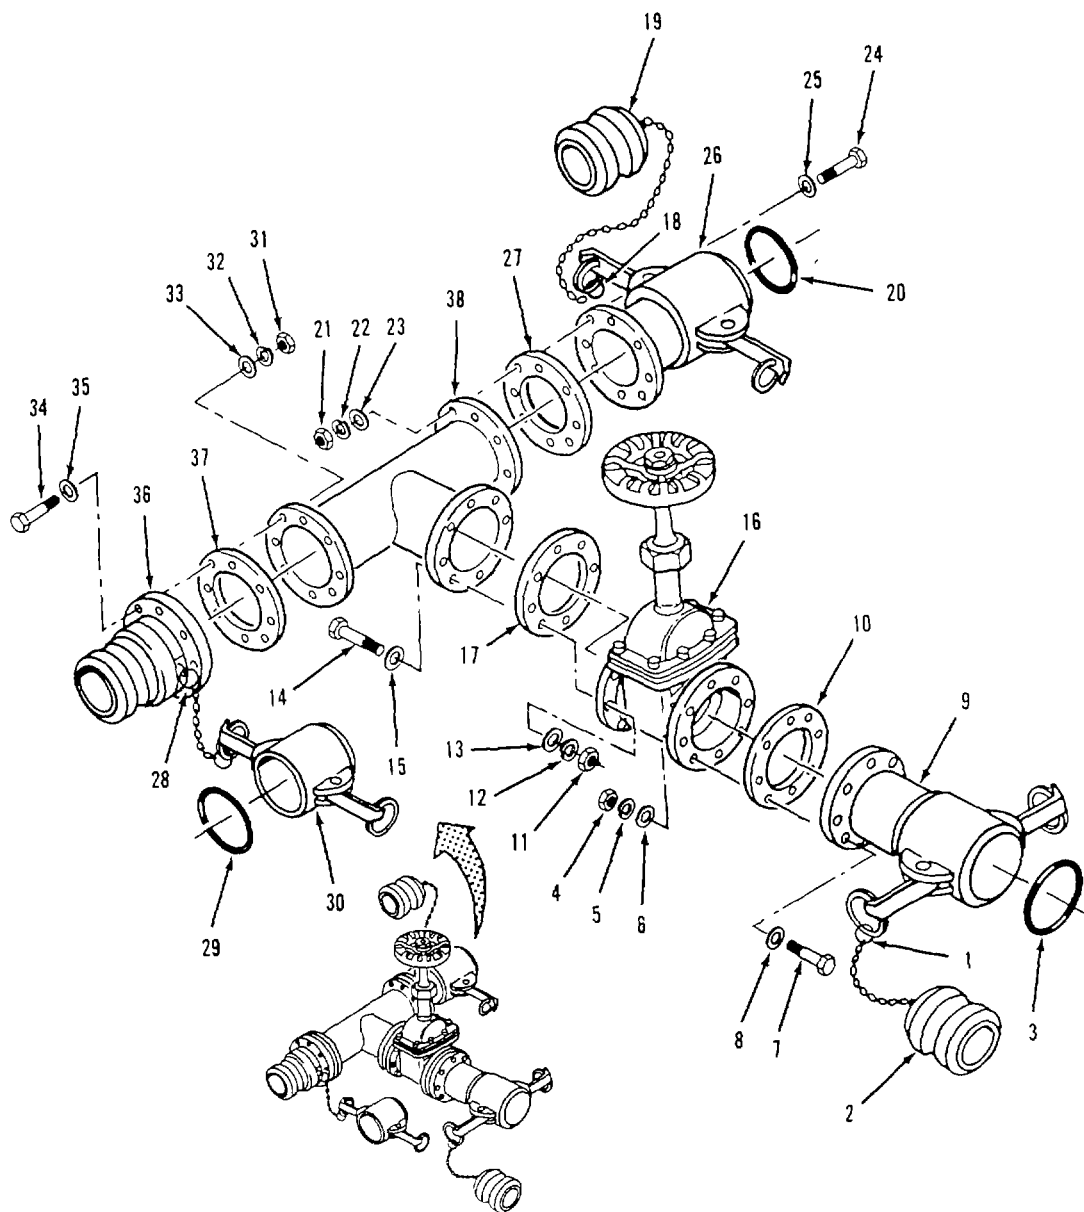

Figure 4-36. Tee and Gate Valve Assembly (9114-Y6) Disassembly.
a. Disassembly. Refer to figure 4-36.
- (1) Disconnect ring (1) from female coupling (9) and remove plug (2).
- (2) Remove gasket (3) from female coupling (9).
- (3) Remove eight nuts (4), lockwashers (5), flat washers (6), screws (7) and flat washers (8).
- (4) Separate female coupling (9) and gasket (10) from gate valve (16).
- (5) Remove eight nuts (11), lockwashers (12), flat washers (13), screws (14) and flat washers (15).
- (6) Separate gate valve (16) and gasket (17) from tee (38).
- (7) Disconnect ring (18) from female coupling (26) and remove plug (19).
- (8) Remove gasket (20) from female coupling (26).
- (9) Remove eight nuts (21), lockwashers (22), flat washers (23) and screws (24) and flat washers (25).
- (10) Separate female coupling (26) and gasket (27) from tee (38).